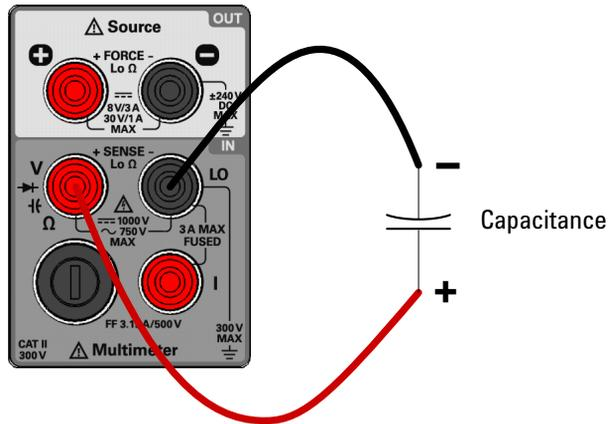

Figure 2-7 Terminal connections for capacitance measurements
- 2 Connect the red and black test leads to input terminals  (red) and **LO** (black) respectively (refer to Figure 2-7 on page 47).